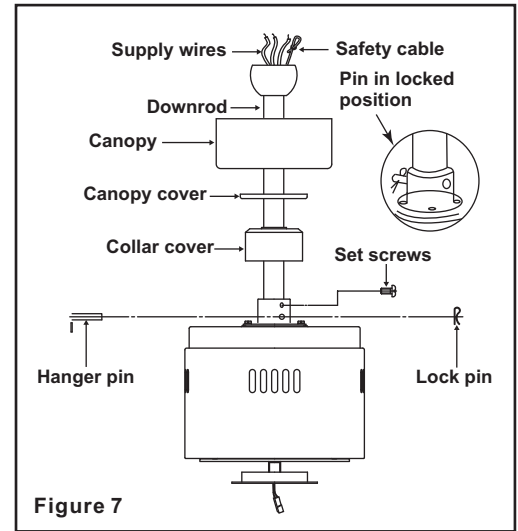

Figure 7
Step 5. Remove the hanger pin, lock pin and set screws from the top of the motor assembly. (Fig. 7)
Step 6. Route the safety cable and wires exiting from the top of the fan motor through the collar cover, canopy cover, canopy and then through the ball / downrod. (Fig. 7)
Step 7. Align the holes at the bottom of the downrod with the holes in the collar on top of the motor housing (Fig. 7). Carefully insert
the hanger pin through the holes in the collar and downrod. Be careful not to jam the pin against the wiring inside the downrod. Insert the locking pin through the hole near the end of the hanger pin until it snaps into its locked position, as noted in the circle inset of Fig. 7.
Step 8. Tighten two set screws on top of the fan motor firmly. (Fig. 7)